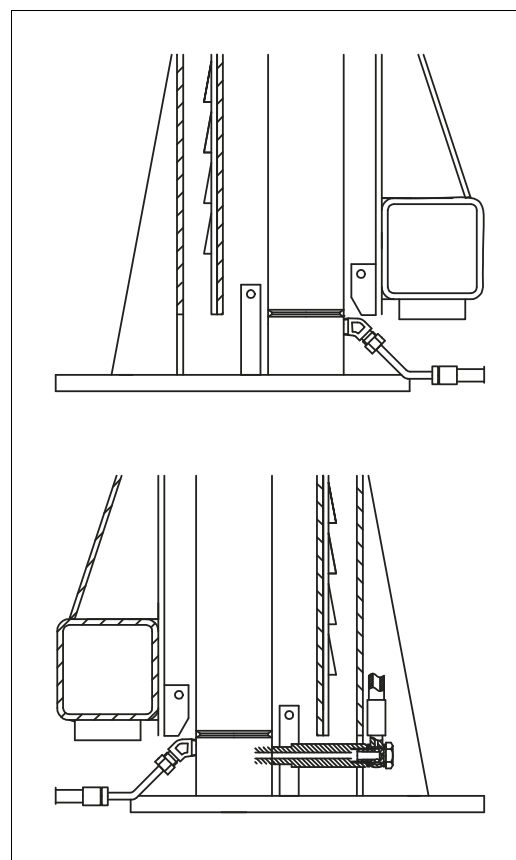

Fig. 31
- ◆ Connect the high-pressure hose according to **Fig. 31**. First connect the hose with tri-joint under the main column and the bend under the sub-column. Fix them after upright the columns.